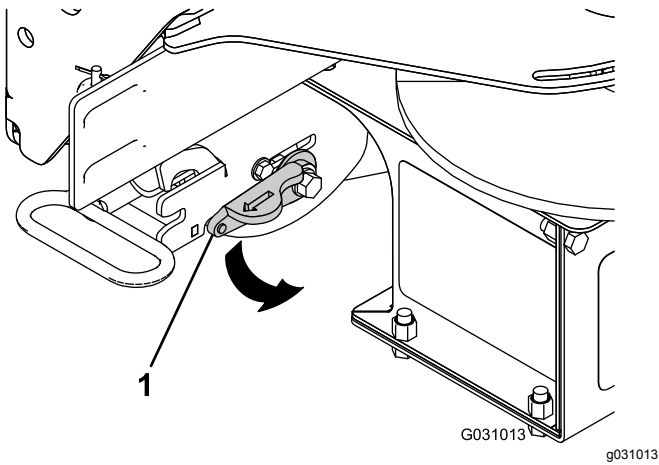

Figure 12
- Rotate the locking lever on the RT3 attachment to the LOCK position (Figure 12).